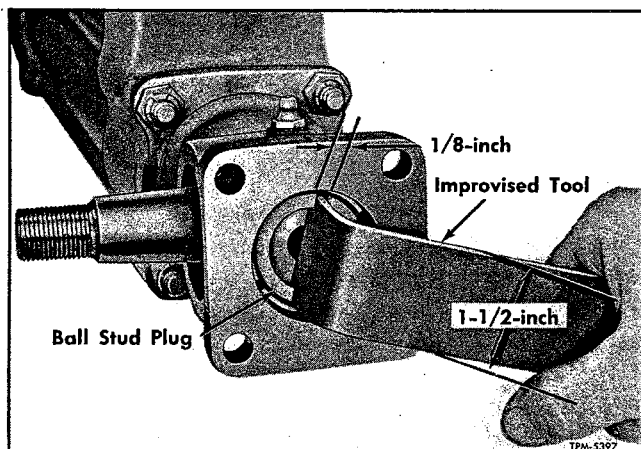

Figure 11—Removing Ball Stud Plug Using Improvised Tool
3. At booster cylinder body, remove snap ring, lock key, end plug and spring. NOTE: Use improvised tool shown in figure 11 to remove end plug. Remove ball stud and two ball stud seats. Remove centering nut locking washer from centering nut. Straighten tab on locking washer if washer is to be reused.